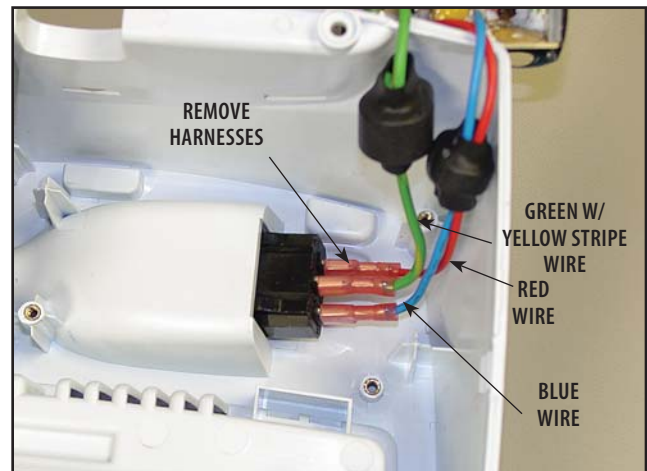

FIGURE 6.9
6. Using Insulated Needle Nose Pliers, disconnect the Power Supply Harnesses from the Mains Connector. **See Figure 6.9.**